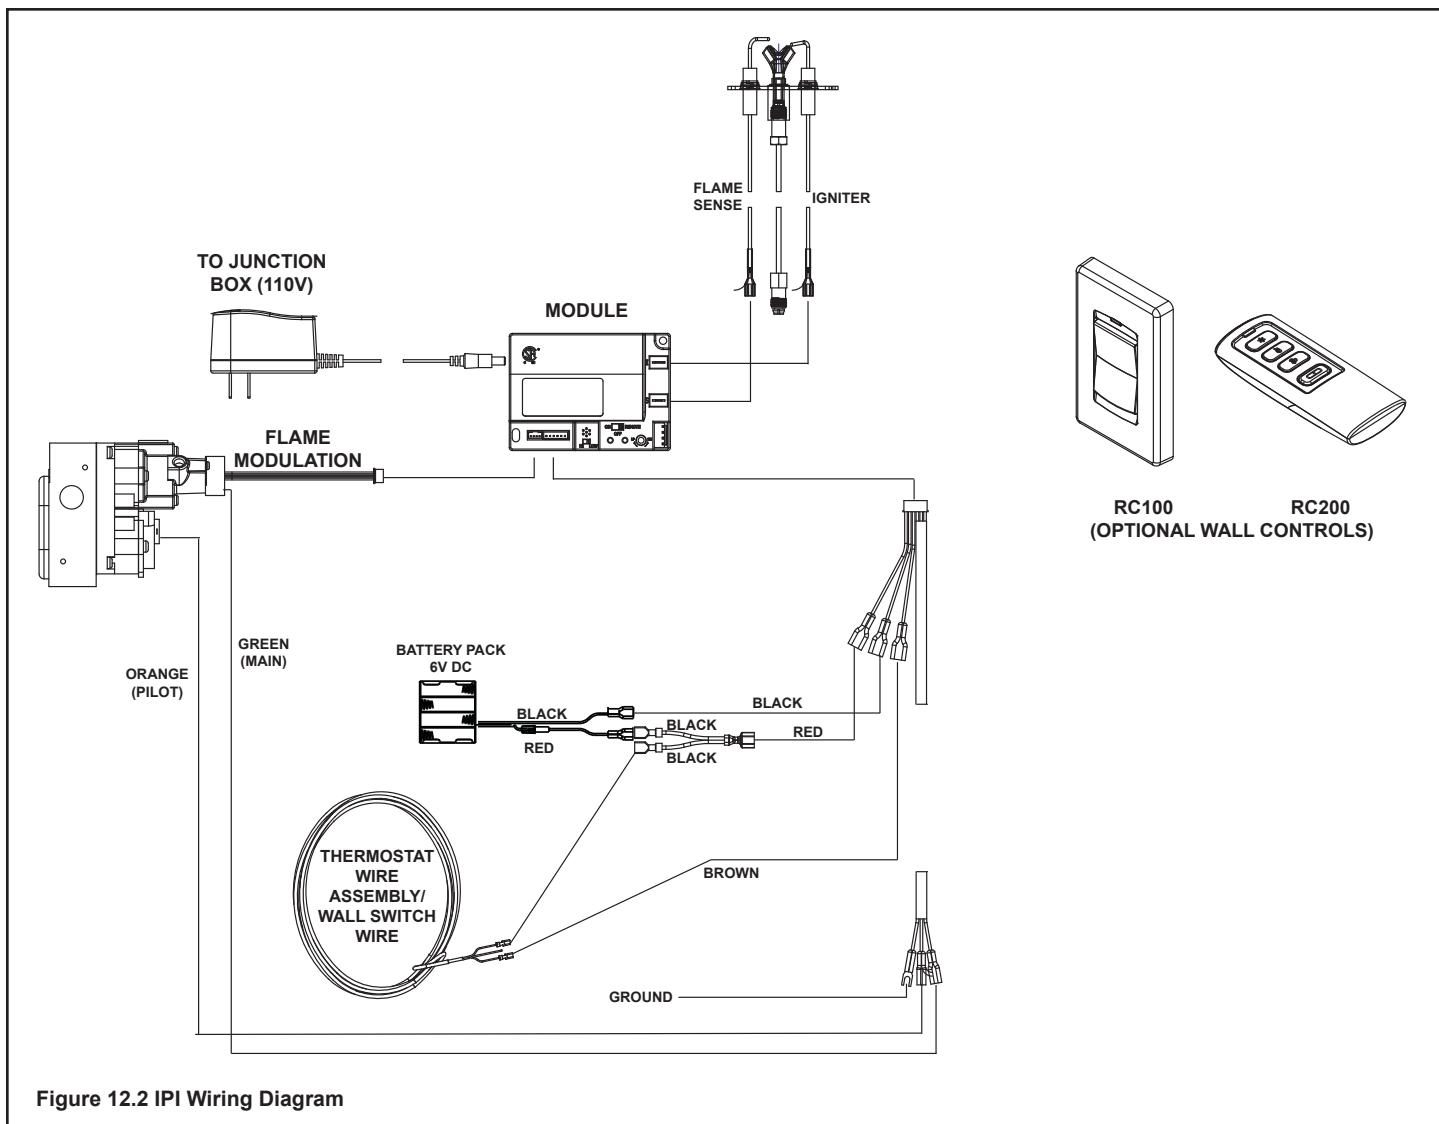

Figure 12.2 IPI Wiring Diagram
- Refer to Figure 12.2, IPI Wiring Diagram.